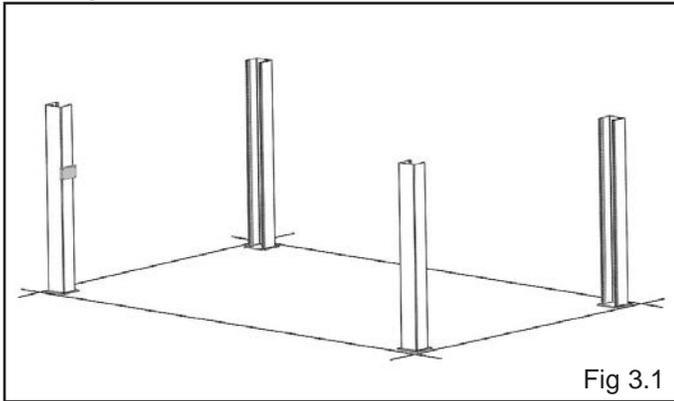

Fig 3.1
1. Place a chalk line on the floor according to the floor plan layout. Pay attention to the Power Unit location. Locate and place the posts at their respective locations. **DO NOT BOLT** the posts down at this time. Use caution to prevent the posts from falling over. (See Fig. 3.1)